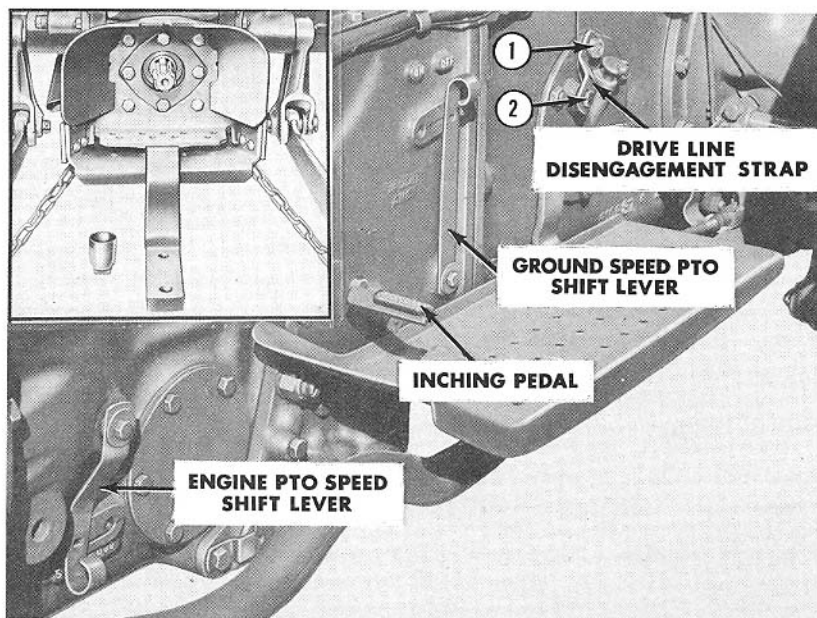

Figure 16
**Towing the Tractor:** To tow or push a Select-O-Speed Transmission equipped tractor, when the engine is not running, the drive line must be disconnected from the rear axle. This is necessary as the Select-O-Speed Transmission automatically shifts into park (P) whenever the engine stops.
To disengage the transmission, disconnect the traction coupling as follows: Remove the nut (1), Figure 16, and strap; turn the strap over and reinstall on the shaft (2), then rotate the shaft approximately 60° to the rear. Rock the tractor to make sure the transmission is disengaged, and then replace the strap and reinstall the nut to assure that the traction coupling remains disengaged. **DO NOT TOW THE TRACTOR OVER 20 MPH.**
**Power Take-Off Shaft:** Your Ford Tractor is equipped with a standard P.T.O. shaft ( $1\frac{3}{8}$ " diameter) in accordance with A.S.A.E. specifications for attaching P.T.O. driven equipment built to A.S.A.E. standards. A P.T.O. shield, see insert, Figure 16, is available as extra equipment from your Ford Tractor and Implement Dealer. This shield should be used as a safety precaution and serves as the supporting member for pull type implement drive line shields in all operations involving P.T.O. driven implements.
The ground speed P.T.O. is engaged by moving the ground speed P.T.O. shift lever, Figure 16, to the "ON" position, making certain that the P.T.O. control knob is in the "IN" position. The P.T.O. shaft will only turn when the tractor is in motion. Consequently, to ease into P.T.O. loads, it will be necessary to use the inching pedal. **WHEN BACKING THE TRACTOR, THE GROUND SPEED LEVER MUST BE MOVED TO THE "OFF" POSITION.** Failure to do this may result in serious damage to the implement being operated.